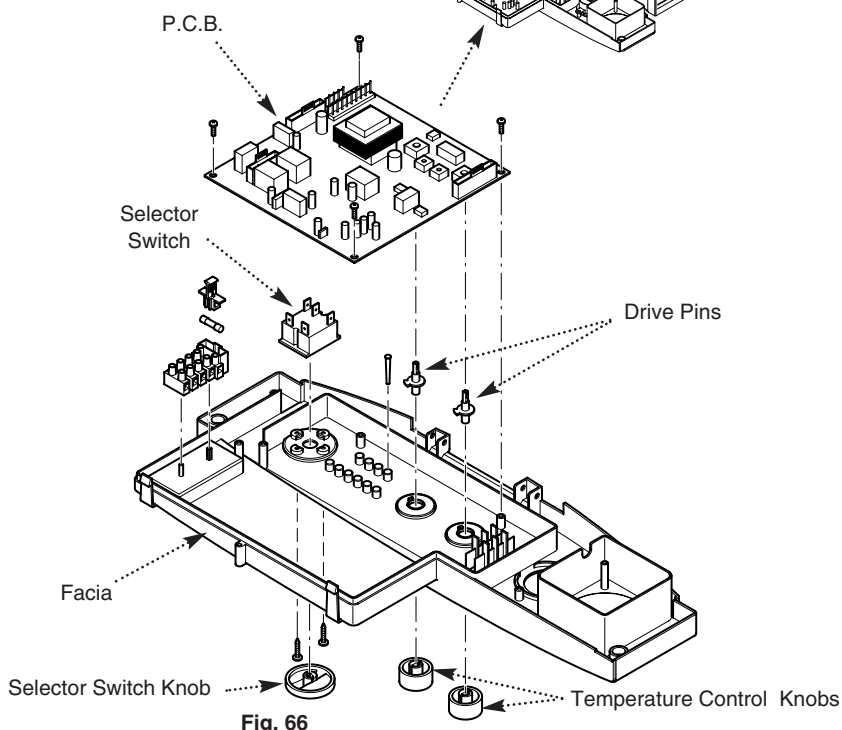

Fig. 66
12.19 P.C.B. (Fig. 66)
12.20 Selector Switch (Fig. 66)
DHW Pressure Differential Valve (Fig. 66)